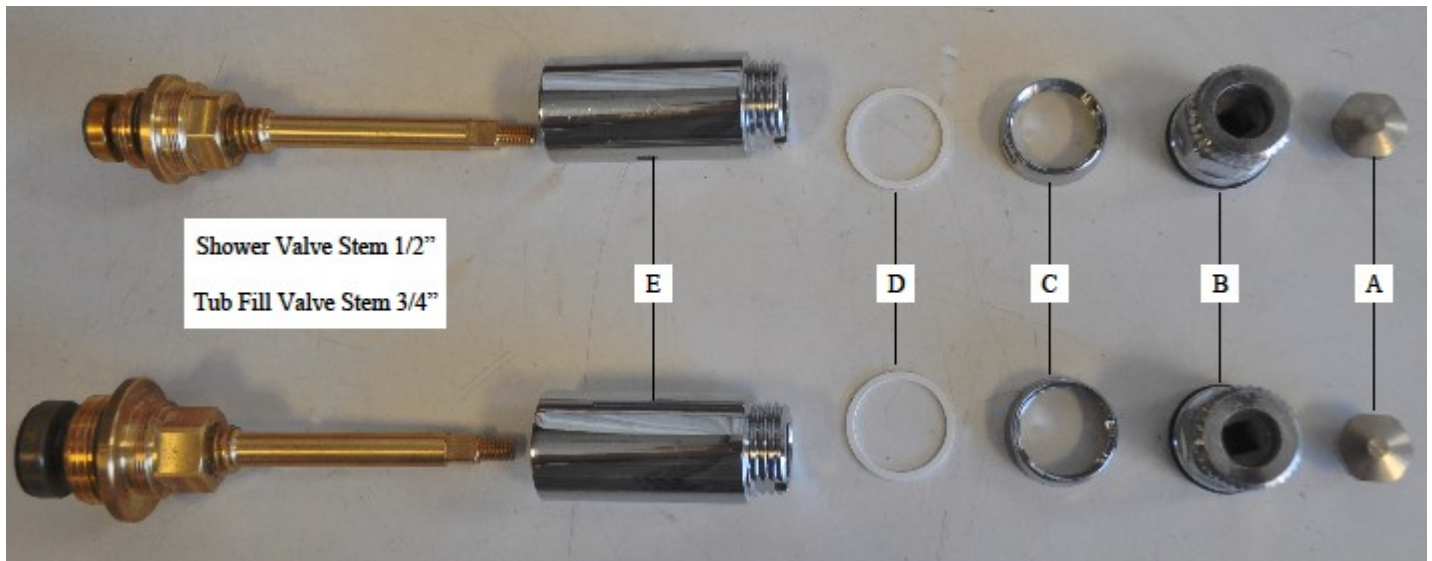

Figure 1
Step 3: Using a crescent wrench, remove part A (fig.1). Hold the valve assembly firmly with your fingers.
Step 4: Remove part B (fig.1). Simply pull straight out.
Step 5: Using a crescent wrench, remove part C (fig.1).
Step 6: Remove part D (fig.1).